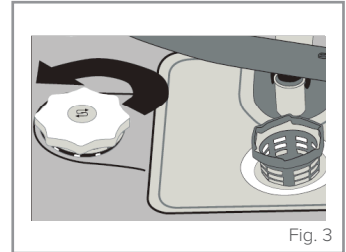

Fig. 3
1. Remove the lower dishwasher basket and then unscrew the salt compartment cap, as shown in Fig. 3 (page 12).